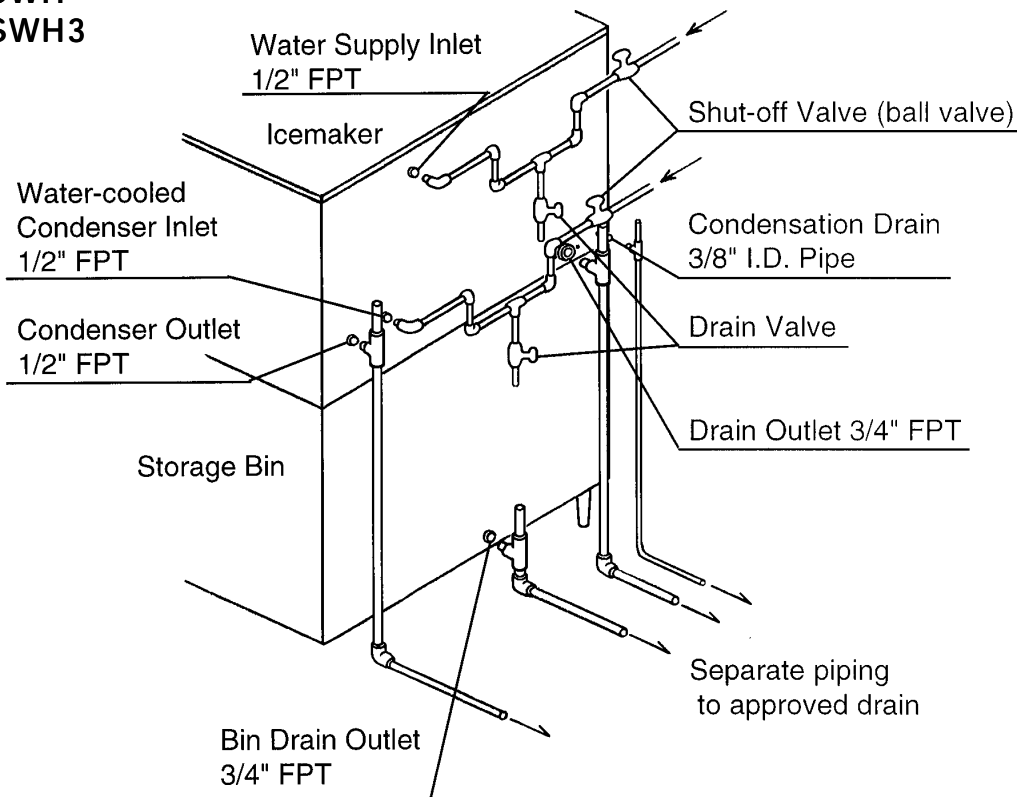

Fig. 13
## 8. WATER SUPPLY AND DRAIN CONNECTIONS - See Fig. 13
- 6) Close the Water-cooled Condenser Water Supply Line Shut-off Valve. See Fig. 13.
- 4) Close the Potable Water Supply Line Shut-off Valve and open the Potable Water Supply Line Drain Valve. See Fig. 13.